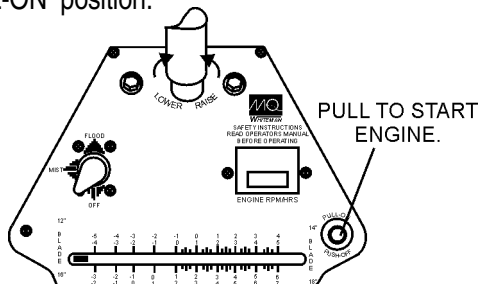

Figure 18. Console Engine ON/Off Switch
5. **PULL** the Console **Engine ON/OFF switch** (Figure 18) to the "PULL-ON" position.
2. Push the console engine ON/OFF switch (Figure 18) to the “OFF” position.